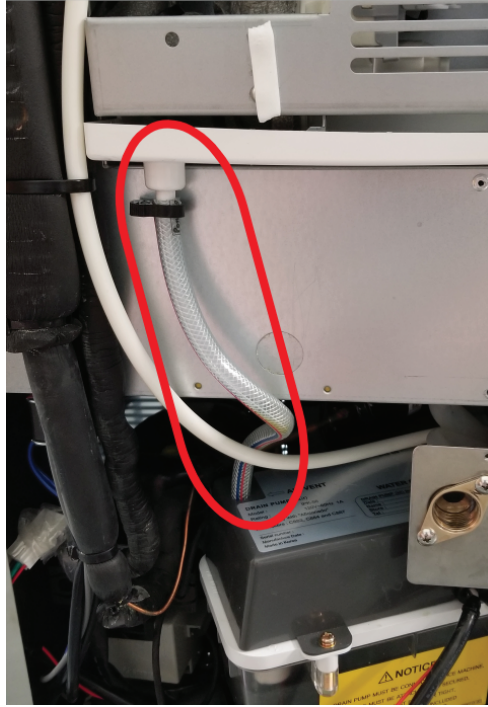

Figure 7
10. The ice maker has a pre-installed air vent hose with one end attached to the bottom of the drain pan and the open end attached below the ice bin structure. Disconnect the open end of the hose from below the ice bin and securely attach it to the drain pump. Alternatively, the pump kit includes an additional air vent hose that may be used if the pre-installed hose needs replacing (Figure 7).